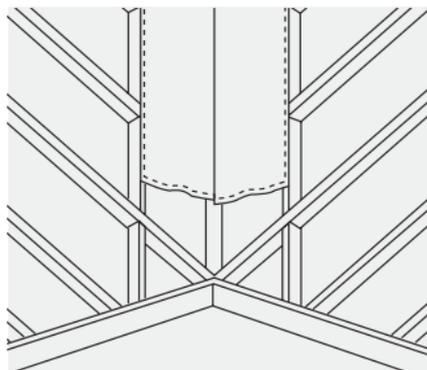

Fig. 67 – Butt joint valley boards over supporting rafters
- 2 Continuous overlaid boards should be minimum of 6mm thick plywood and only butt jointed over a supporting rafter (Fig. 67).